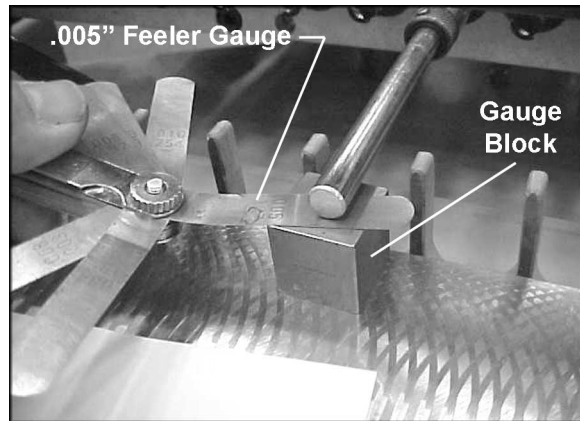

Figure 27
5. Place a gauge block on the table and below the rod of the center spindle, as shown in Figure 27. (The gauge block can be any size as long as it fits between table and rod.)
6. Rest a .005" feeler gauge on top the gauge block, and lower the spindles by turning the crank handle until the rod contacts the feeler gauge, as shown in Figure 27. The feeler gauge should just rub against both the gauge block and the rod.